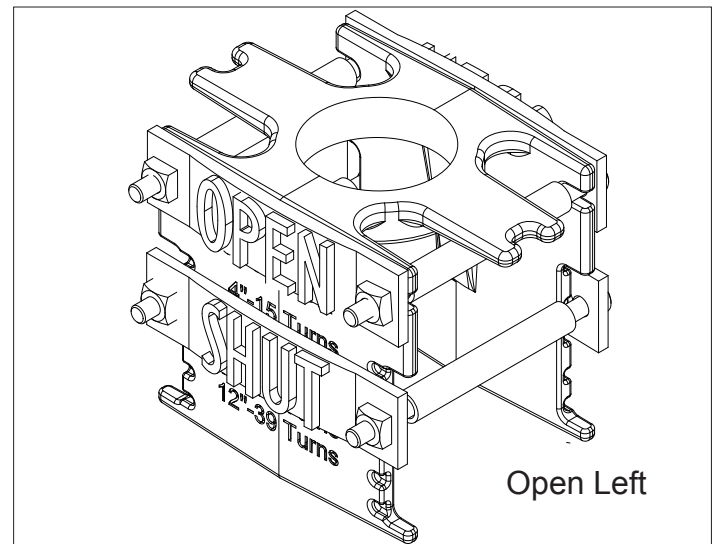

Fig. 2B
For an "open left" valve the "OPEN" sign should be mounted above the "SHUT" sign. (Fig. 2B) For an "open right" valve the "SHUT" sign should be mounted above the "OPEN" sign. (Fig. 2C). In September 2010, American AVK switched series 34 post indicators from a preset 4-inch valve to a preset 6-inch valve. During this period, both types of post indicators were delivered. To determine if the post indicator you received is preset for a 4-inch or 6-inch valve, perform the following steps:
4. If the Post Indicator is to be mounted on an open left valve, the "OPEN" Plate (F321) remains in the top position of the Target (F318). (See Fig. 2B).
NOTE: For an "open left" valve the "OPEN" sign should be mounted above the "SHUT" sign. (Fig. 2B) For an "open right" valve the "SHUT" sign should be mounted above the "OPEN" sign. (Fig. 2C) In September 2010, American AVK switched series 34 post indicators from a preset 4-inch valve to a preset 6-inch valve. Refer to "ADJUSTING THE TARGET (FOR SERIES 3400 TYPE INDICATORS):"